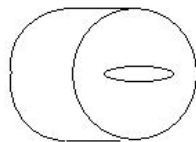

Figure 2
- PVC pipe with an i.d. suitable for the feedline in use can be used the same way as the TV feeder tubes (7,8,13). The tube can be stuffed with some RF-inert material although I have used a pipe cap on the inside end with a slot cut in it to pass the feeder that is then sealed with airplane model cement - see Figure 2.